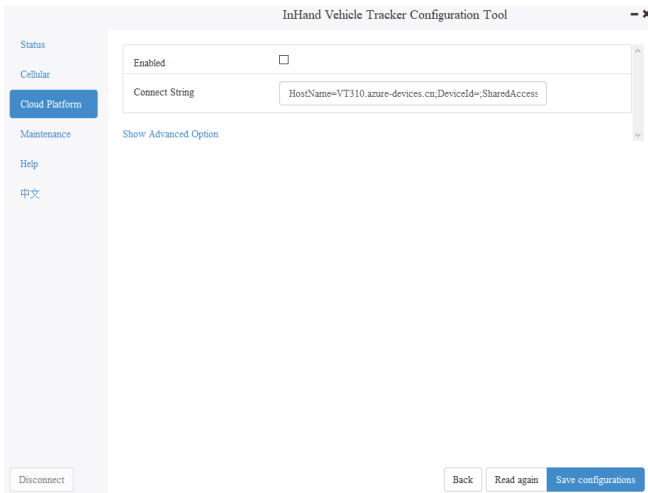

Figure 6-6
Step 4: If you select the Azure IoT Hub platform, select **Enabled** and set the **Connect String** parameter. Click **Save configurations** and restart the device. Figure 6-6 shows the configuration page.